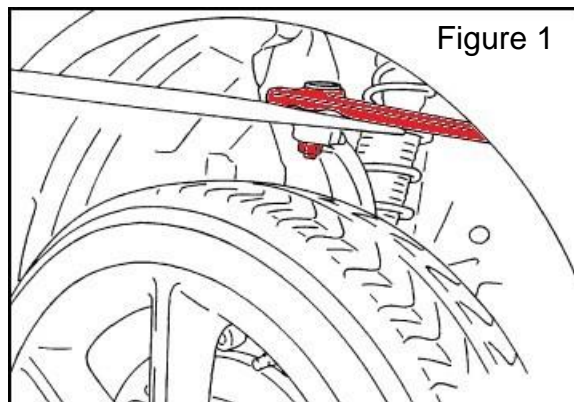

Figure 1
6. Locate the OEM front upper control arms (FUCA). They are located at the front left and right ends of the vehicle, between the chassis and front axles (Figure 1).
Note: Ball joint may be seized in steering knuckle. Use a ball joint separator fork or pry bar with a soft blow hammer to separate. See figure 1 for proper placement of separator fork or pry bar.